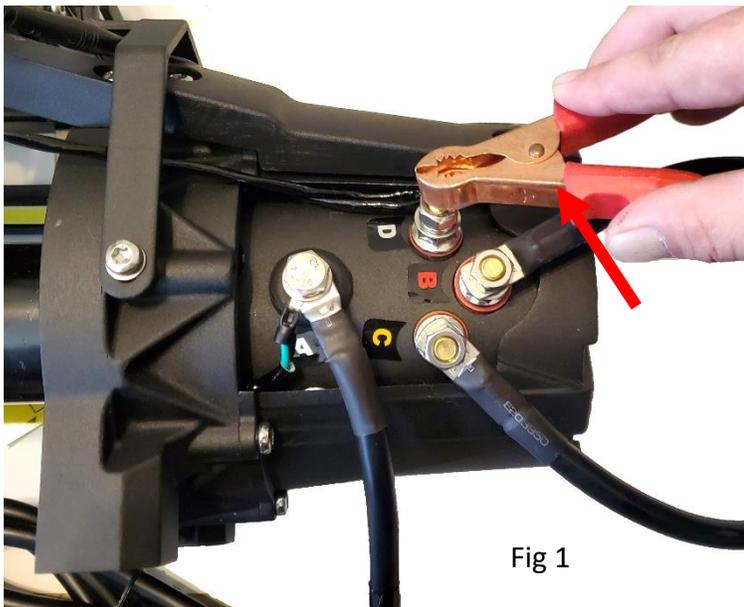

Fig 1
Step 3: Attach a large gauge jumper wire between the B (red) and the C (yellow) terminals. Using a jumper cable from the positive battery terminal to terminal B (black) on the motor tap the jumper onto the terminal. Take care that jumper cable does not contact motor housing Motor should power one direction. Fig 1.